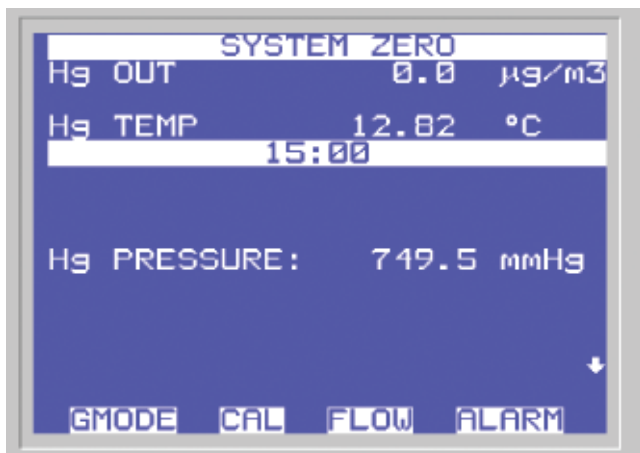

Figure 2: Pressure
3. Ensure that the "Hg OUT" value, as seen in Figure 2, matches the requested output within 5%.
5. While in "INSTRUMENT CAL" ensure that the pressure does not exceed 950 mmHg as shown in Figure 2. Pressure can be found in the "DIAGNOSTICS" menu. If it does exceed 950 mmHg, ensure the atmospheric dump is not blocked.